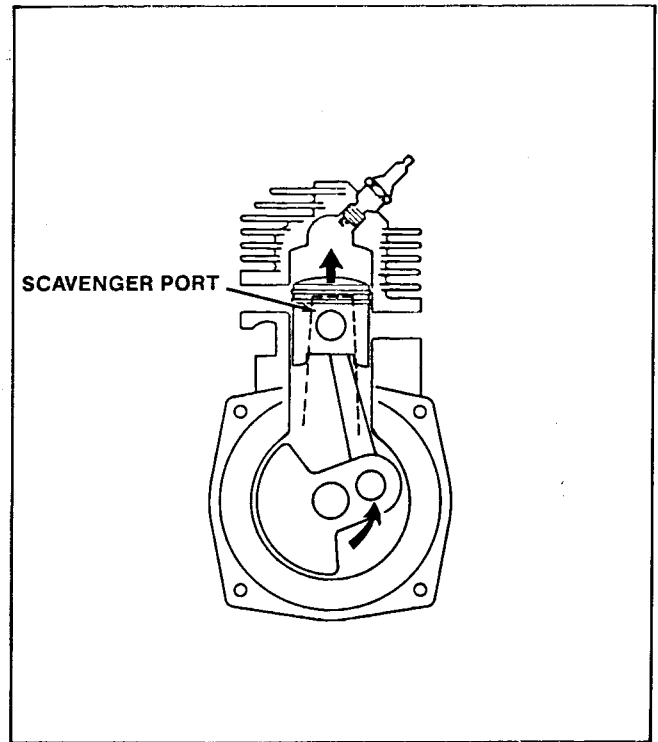

Figure 77
1. The piston closes the scavenger ports. This prevents equalization of pressures between the lower crankcase and the combustion chamber. See Fig. 77.